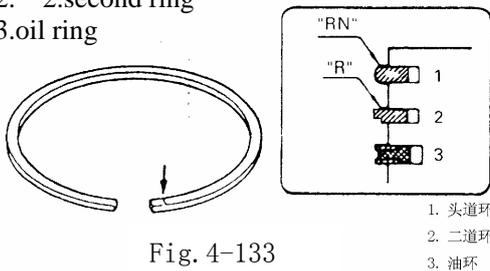

Fig. 4-133
• Distinguish the 1st ring and the 2nd ring refer to Fig 4-133.
2) Install piston ring to the piston. As Fig.4-133 show, the first and second ring has been marked "RN" "R" separately. When install piston ring to piston, the side with mark face towards the top of piston.